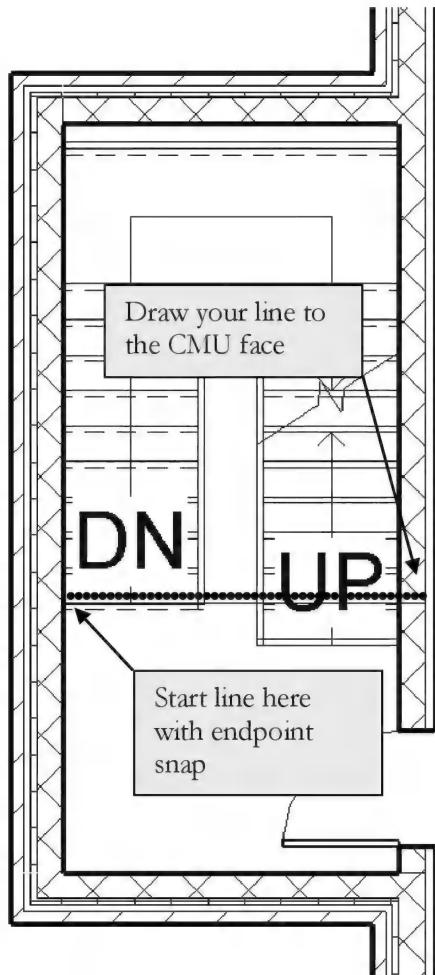

FIGURE 7-1.8 Level 2 – West stair
31. Draw a horizontal line defining the edge of the landing; use Revit's snaps to accurately pick the top riser as shown in **Figure 7-1.8**.